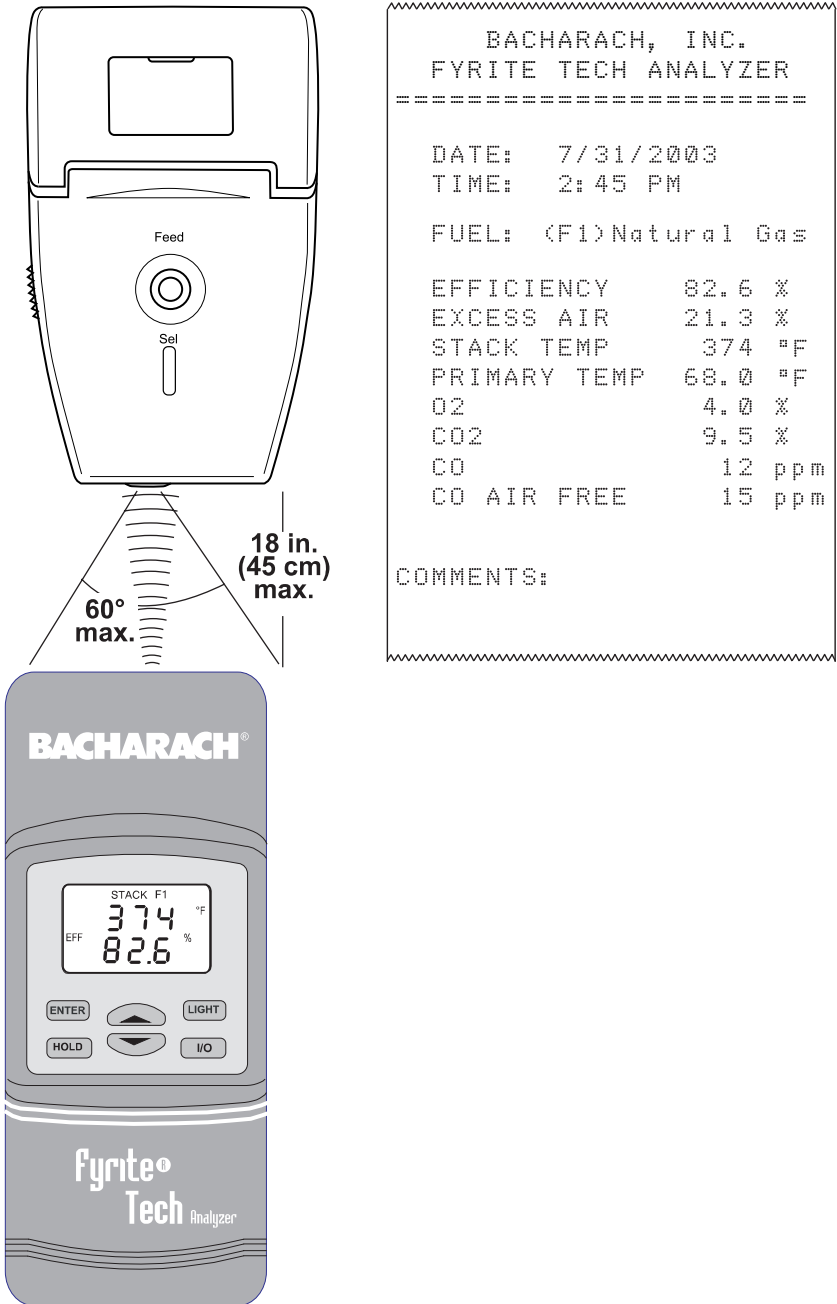

Figure 4-1. Printer Alignment & Sample Printout
2. Align the printer with the top of the analyzer as shown in Figure 4-1.